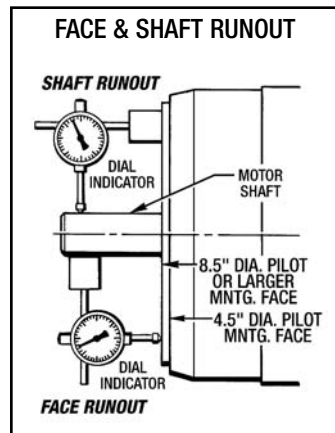

Figure 3 - Verifying Motor Specs.
The **Motor Manufacturer's Specifications** must be verified first to ensure the Motor Brake Oil Seal Reliability. (1) **Motor Shaft Runout** and (2) **Mounting Face Runout** need to be checked with a Dial Indicator as shown in Figure 3.